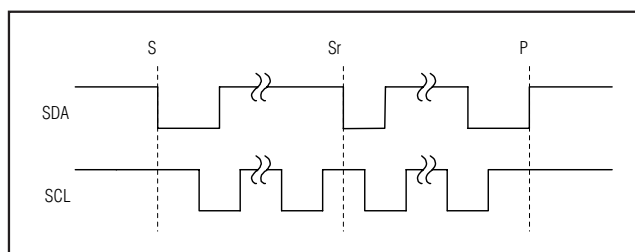

Figure 4. START and STOP Conditions
The master initiates a transmission with a START condition (S), which is a high-to-low transition on SDA while SCL is high. The master terminates a transmission with a STOP condition (P), which is a low-to-high transition on SDA while SCL is high (Figure 4). A repeated START condition (S_r) can be used in place of a STOP condition to leave the bus active and the mode unchanged (see the *HS I²C Mode* section).